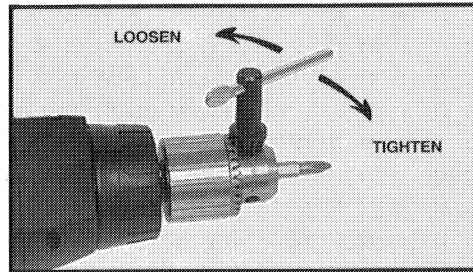

Fig. 4
5. Tighten chuck – insert chuck key into each of 3 keyholes in chuck body (Fig. 4), in succession and tighten securely by turning key clockwise.